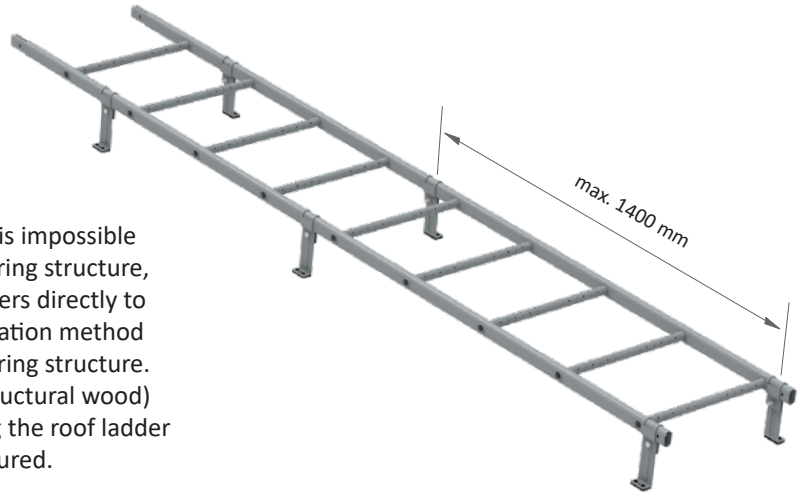

figure 1
- Install the roof ladder fasteners on the ladder frame at max. 1400 mm intervals (figure 1).